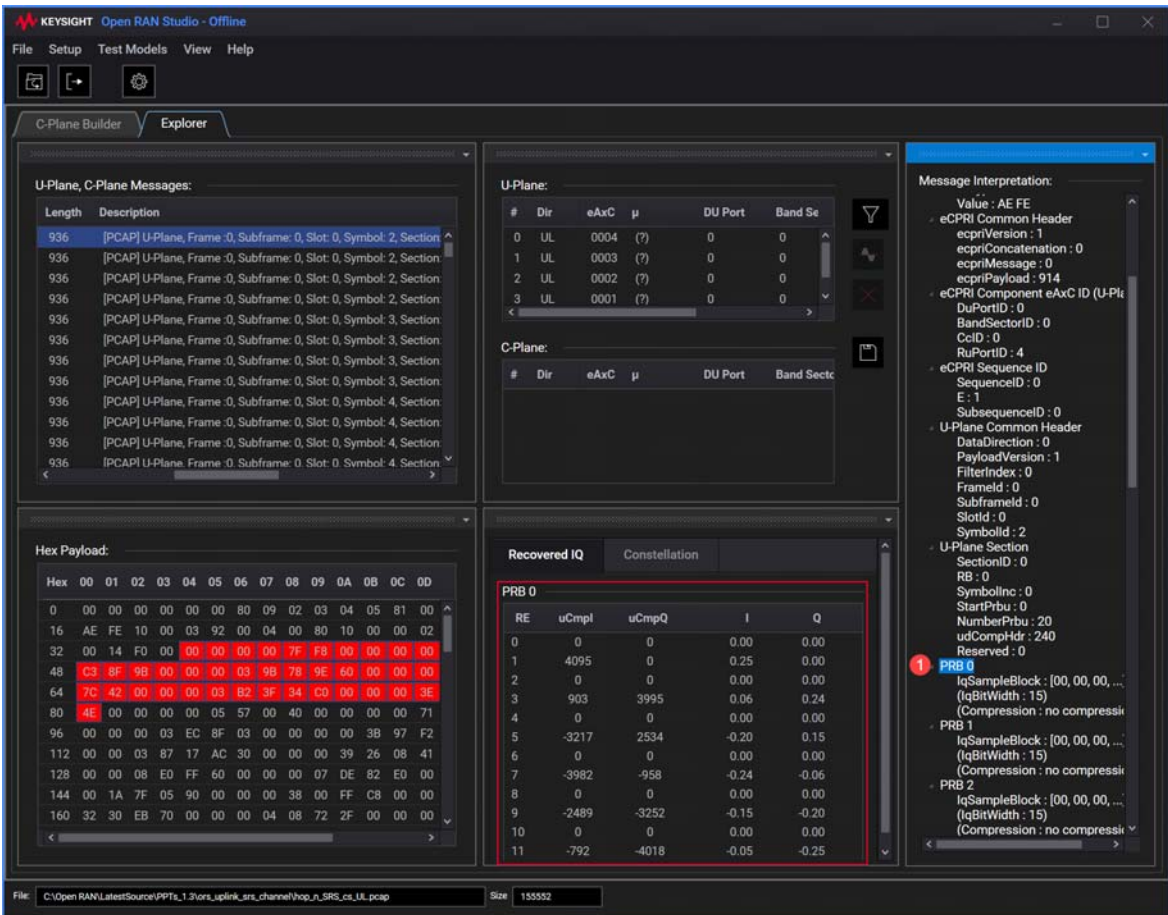

Figure 147 Recovered IQ data for the selected PRB
- f Highlight PRB0 in the Message Interpretation area to view the corresponding Recovered IQ data, as shown in Figure 147. This data corresponds to the reMask selected in Figure 145.
- h Highlight PRB0 in the Message Interpretation area to view the corresponding Recovered IQ data, as shown in Figure 147. This data corresponds to the reMask selected in Figure 145.